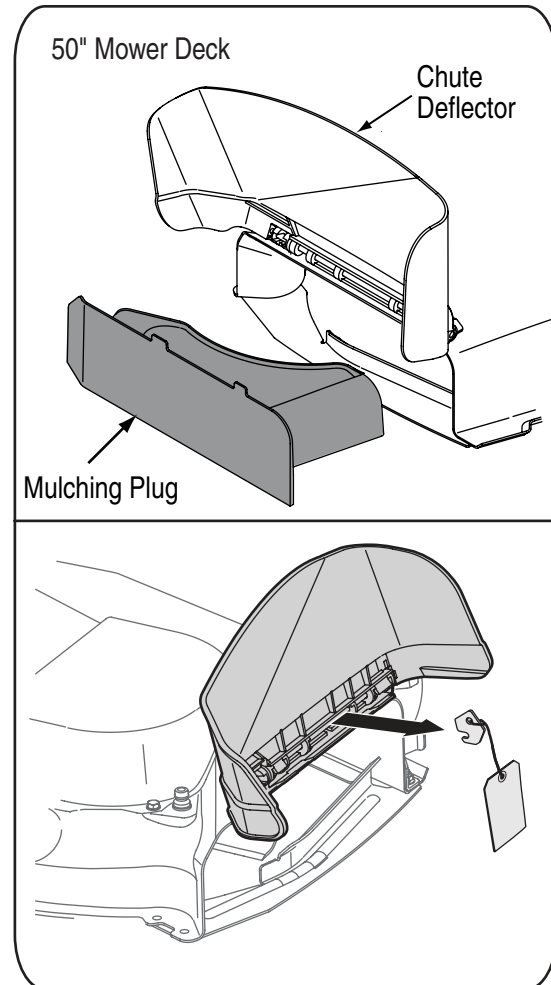

Figure 3-3
- Locate the shipping brace and tag, if present, between the chute deflector and the cutting deck. Holding the chute deflector fully upward, remove the shipping brace by grasping it and rotating it. Lower the chute deflector. Refer to Figure 3-3.